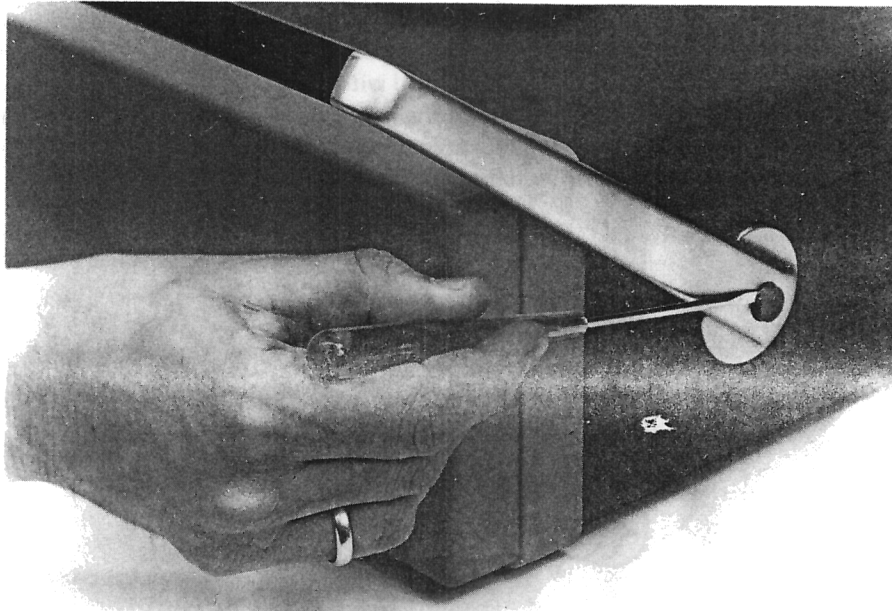

Fig. 3.21. Removing the carrying handle.
- Prise off the centre knobs from each pivot, using a screwdriver (Fig. 3.21) in one of the small slots at the sides of the knobs.